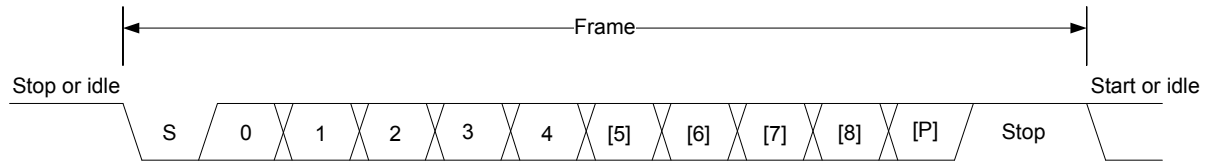

Figure 18.2. USART Asynchronous Frame Format
The frame format used in asynchronous mode consists of a set of data bits in addition to bits for synchronization and optionally a parity bit for error checking. A frame starts with one start-bit (S), where the line is driven low for one bit-period. This signals the start of a frame, and is used for synchronization. Following the start bit are 4 to 16 data bits and an optional parity bit. Finally, a number of stop-bits, where the line is driven high, end the frame. An example frame is shown in Figure 18.2 USART Asynchronous Frame Format on page 606.